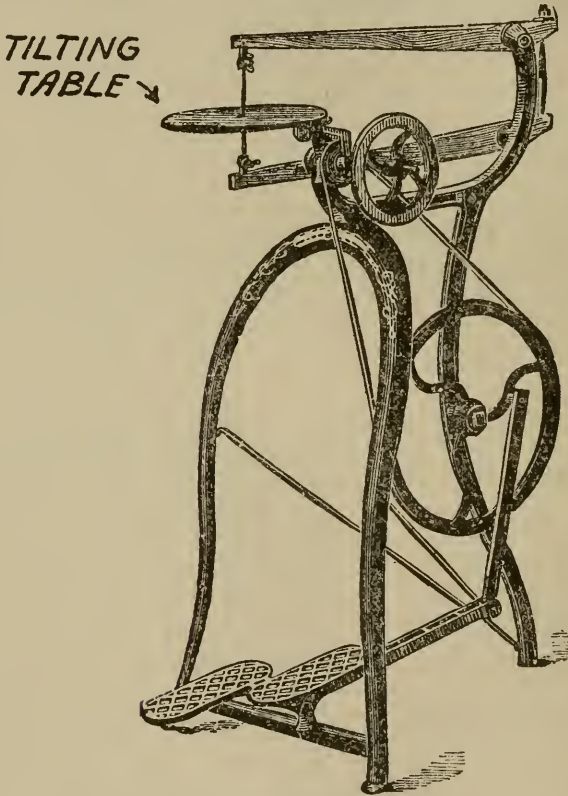

FIG. 13. THE CHEAPEST FOOT-POWER SCROLL SAW MADE
This little machine weighs 17 pounds and is 33 inches high; it is made of lighter castings than the machines which follow but it will do just about as good work as the higher priced ones. Fig. 13 shows what it looks like.
**How a Foot-Power Scroll Saw Works.**— If you will look again at Figs. 13 and 14 you will see that the scroll saws shown have saw frames very like a hand saw frame. The lower part of the frame is connected with a crank on the end of a spindle, which has a small grooved wheel fixed to it, by a pitman or rod